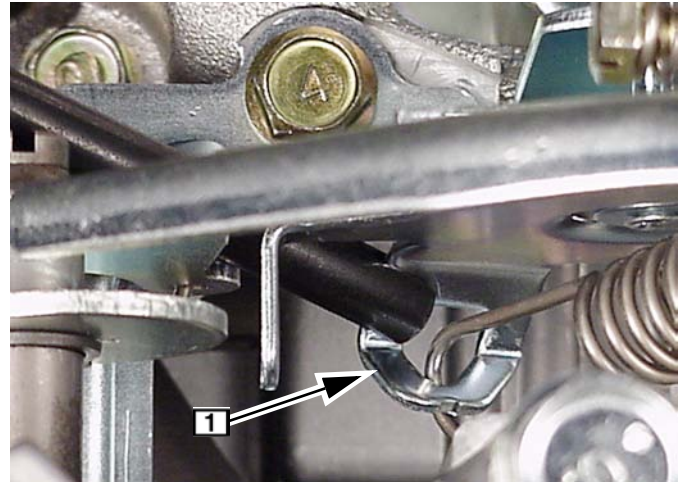

Fig. 192
13. Bend tang with Tool #19480 to obtain 3600 RPM, Fig. 192.